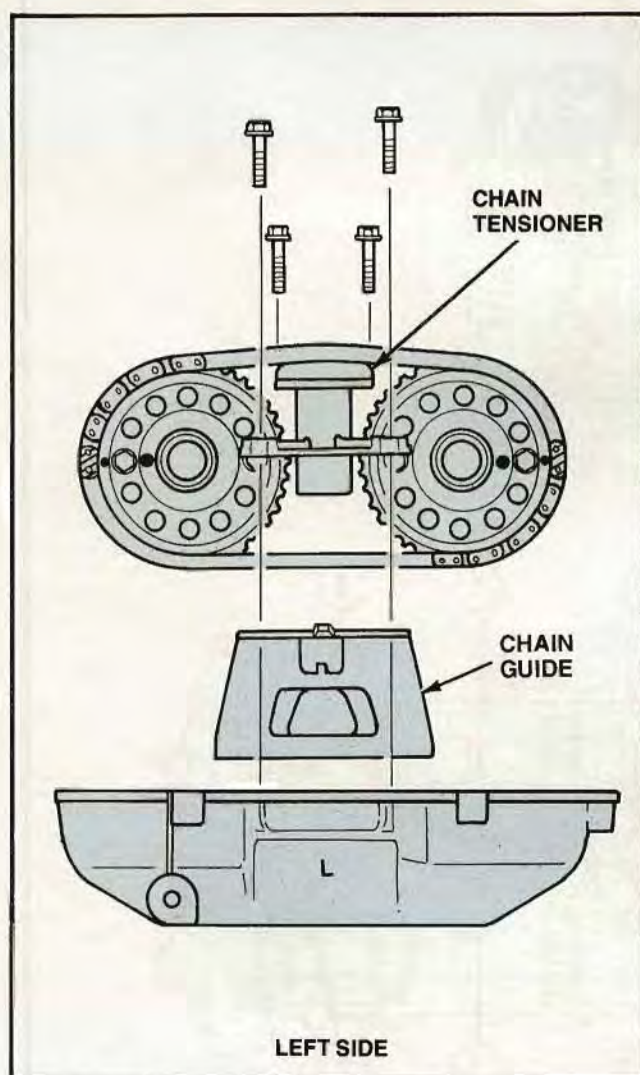

Figure 119. Left Side Chain Tensioner, Guide and Timing Chain
4. Install the left side chain and chain tensioner using the same techniques that were used on the right side (Fig. 119).